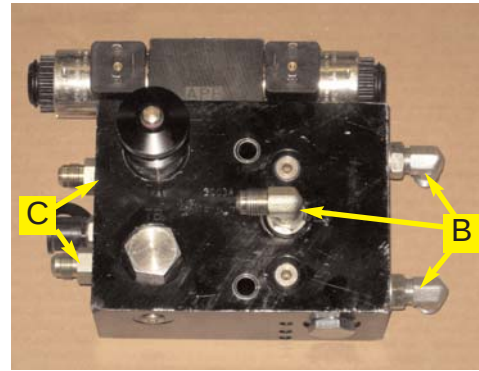

Figure 1. Prepared automated steering block.
- b. Install the elbow adapter fittings (**B**) into the **A**, **B** and **LS** ports of the automated steering block. (Figure 1.)
- c. Install the straight adapter fittings (**C**) into the **P** and **T** ports. (Figure 1.)